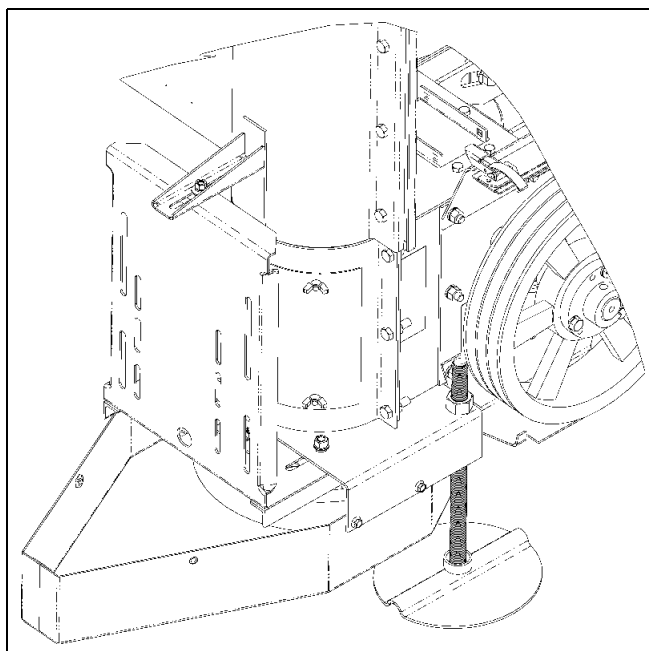

Figure 5BR
15. Loosen the four (4) clamp bolts on the auger boot and turn the vertical auger tube to the proper position. Re-tighten the clamp bolts.
16. Anchor the vertical auger tube to the bin wall by assembling the adjustable brackets to the tube and bin. The 15' vertical auger uses one set of braces and the 18' uses two (2) sets. Fasten the angle brackets to the clamping bands with 3/8" x 2" full threaded hex bolts, lock washers and nuts. Fasten the 26" long adjustable tubes to the angle brackets with 3/8" x 2" hex bolts, lock washers and nuts. Assemble the adjustable tubes to the bin wall tubes with clamping channels, 3/8" x 3" carriage bolts, lock washers and nuts. Anchor the adjustable bin wall tubes to the bin by using the backing plates on the inside of the bin and fasten with 3/8" x 1-1/2" hex bolts, lock washers and nuts. See vertical auger on Page 86.
17. Put the 4" O.D. x 2B groove pulley on the motor shaft. (A 6" discharge uses a 3-1/2" pulley.) Complete by attaching the motor to the base plate with four (4) 3/8" x 1-1/4" hex flange bolts, flat washers, lock washers and nuts.
18. Put two (2) BX-51 V-belts on the motor and auger pulleys. Adjust the pulleys until the belt alignment is proper.
19. Tighten the belt to 3/16" deflection at 10-15 lbs. by loosening the 5/16" carriage bolt on the back of mounted plate. Loosen the two (2) 3/8" carriage bolts in front of the base plate and turn the 1/2" nuts on the stud to move the motor out. After proper tension is obtained, re-tighten all nuts and bolts.
20. For bottom drive, raise the belt shield assembly and attach to the vertical boot using four (4) 1/4" x 1/2" hex flanged head bolts. Install the rain cover on the top of the vertical. (See Figure 5BR.) For top drive units, install rain cover at the same time as the belt shield.